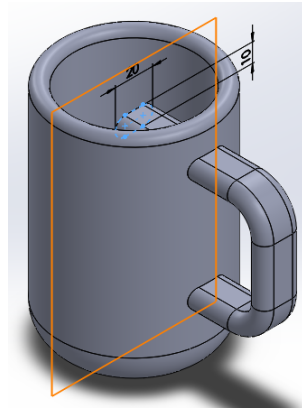

Fig3
- The ! is not suitable because this way the Sweep feature would create unnecessary protrusions inside the body of the *Mug* (Fig3);